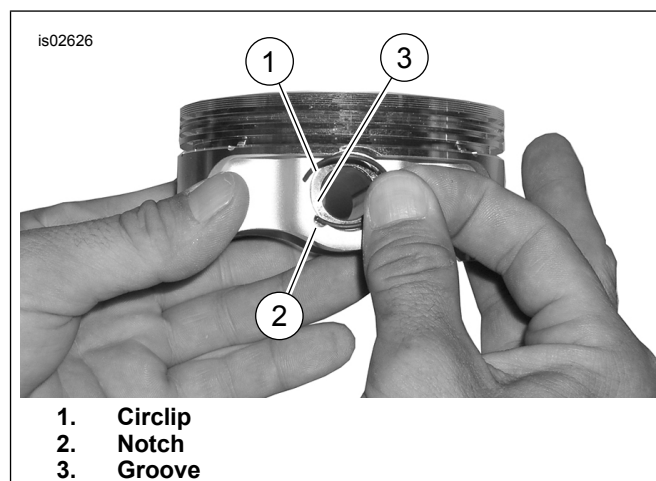

Figure 3. Circlip and Piston
- See Figure 3. Insert the open end of the circlip (1) into the notch (2) on the groove (3) around the piston pin boss so the gap is at the straight up or straight down position when installed.